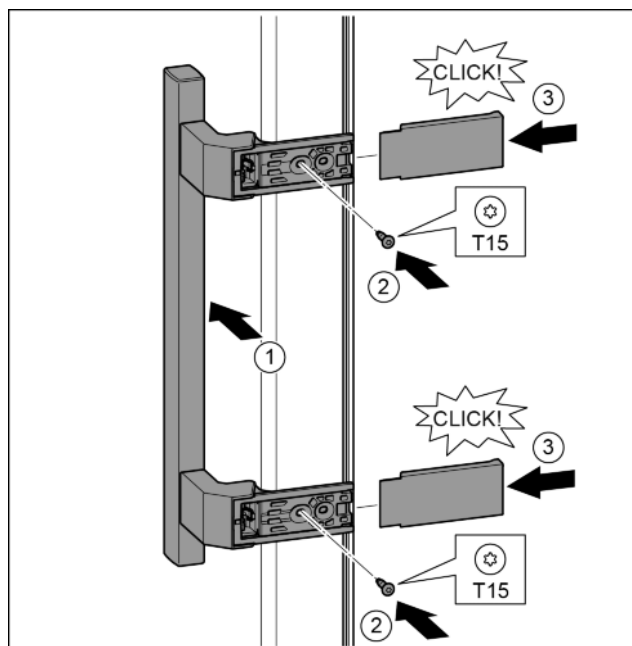

Fig. 18
- Position the handle on the other side. Fig. 18 (1)
- Tighten the screws with the T15 screwdriver. Fig. 18 (2)
- Position the covers on the side and push in. Fig. 18 (3)